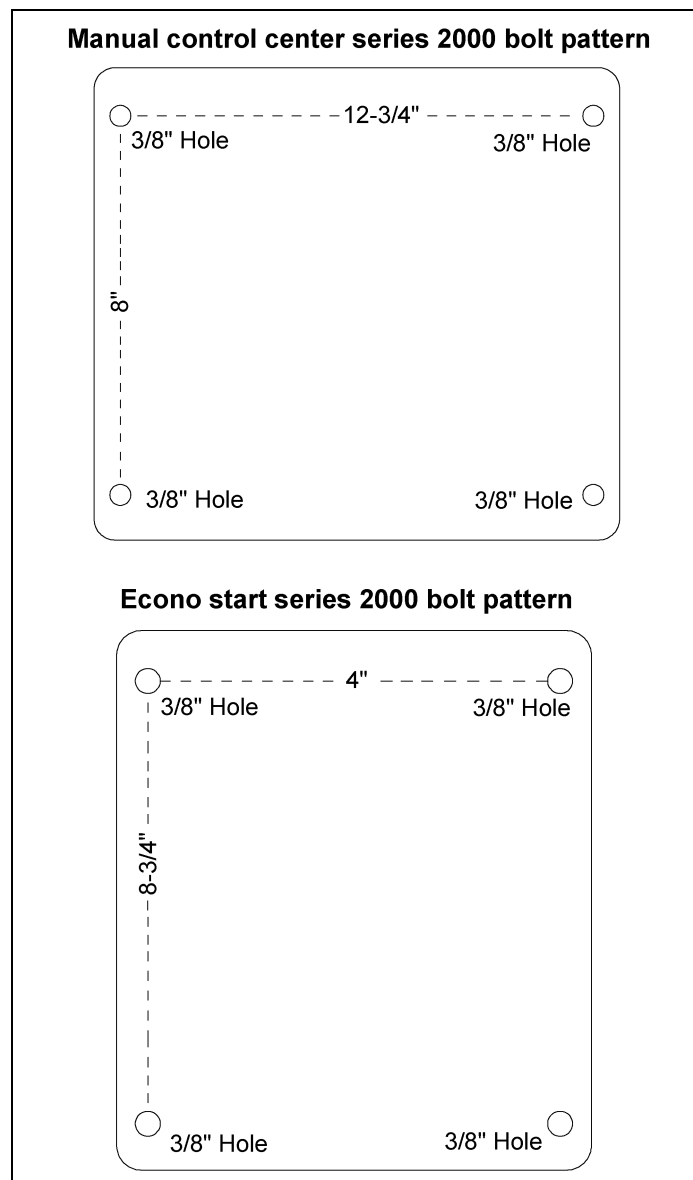

Figure 3C Illustration of the bolt pattern for the manual and econo control center.
3. Use the hole pattern in Figure 3C on Page 11 to drill holes for mounting the control box.